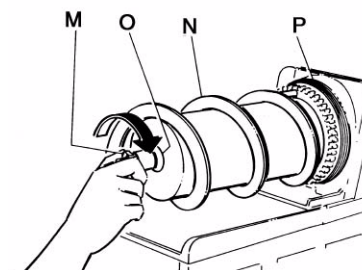
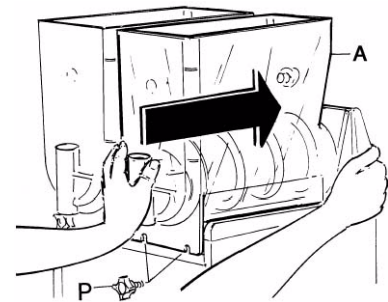

FIGURE 16
FIGURE 19
7. Unscrew the securing bolt (M) clockwise. Pull off the auger (N) and remove the shaft seal (O) and the bowl seal (P) (see Figure 16).
10. Reassemble the mixing unit, according to the following procedures (see Figure 16):
- Moisten the bowl seal (P) with water and slip it into place at the back of cylinder with ribs angled toward back of freezer.
- Apply food grade lubricant to the inside of the shaft seal (O) and put the shaft seal (O) back on with the flared end of seal toward back of freezer.
- Put the auger assembly (N) back on the evaporator.
- Secure all the parts in place by screwing on the bolt (M) counterclockwise.
11. Reassemble the bowl (L), positioning it into place. Make sure that the bowl fits tightly to the bowl seal (see Figure 19). We also suggest that the rear part of the bowl be moistened with water or lightly lubricated at the point where it fits together with the seal to make it easier to install the bowl.